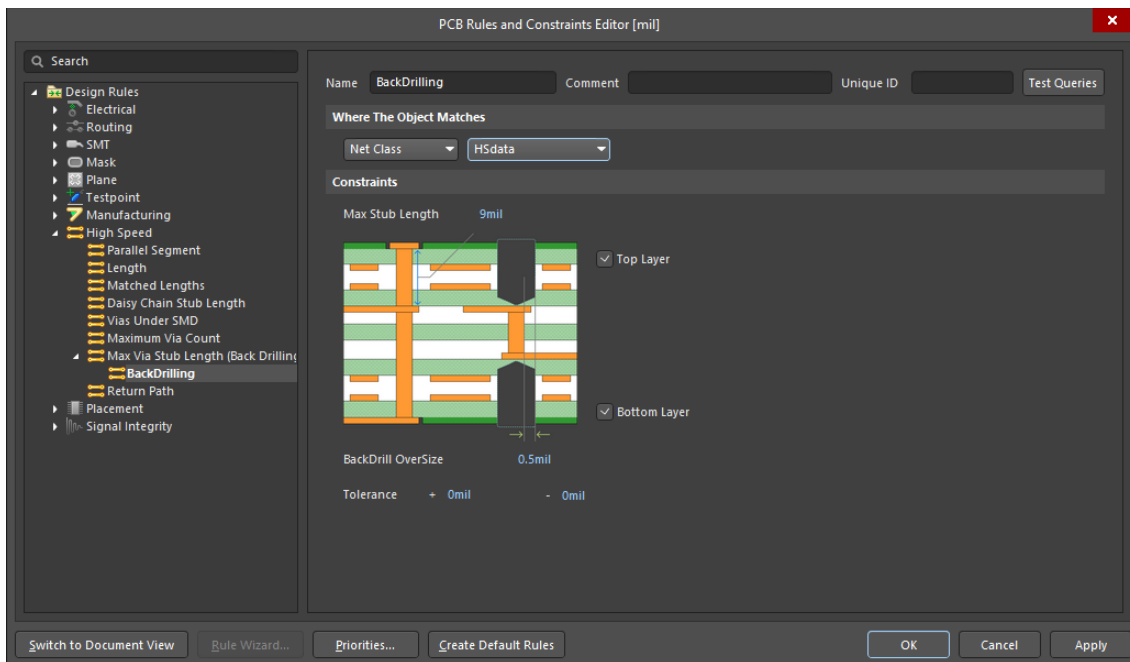

Figure 8. HSdata Net Class Scope for rule
14. Now we would normally want to limit the Back Drilling to only the high-speed nets requiring it. In order to scope this new rule to our targeted nets we could use the Object Matching drop down menu and pick **Net Class** – then select the **HSdata Net Class** from the 2nd pulldown menu. This would limit Drill Pairs to only pads and vias associated with the HSdata nets, Figure 8.